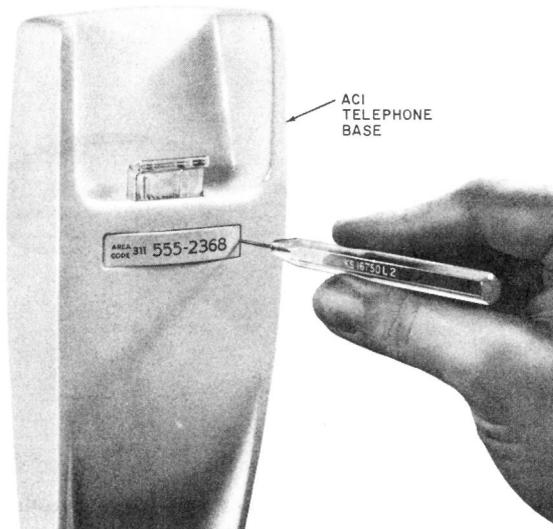

Fig. 11—Removing Number Plate Retainer
- Space provided on bases for number card and associated number card retainer (Fig. 11)
3.02 The plastic housing of these bases are secured by captive housing screws located behind the number card and number card retainer. When necessary to remove the housing from either base assembly use a KS-16750 type releaser or equivalent to remove the number card retainer (Fig. 11). ***Be careful not to insert the tip of the releaser too deep or mar the base housing. Under no circumstances should a screwdriver be used.*** Loosen the two captive screws, which are now exposed, and lift the housing off.